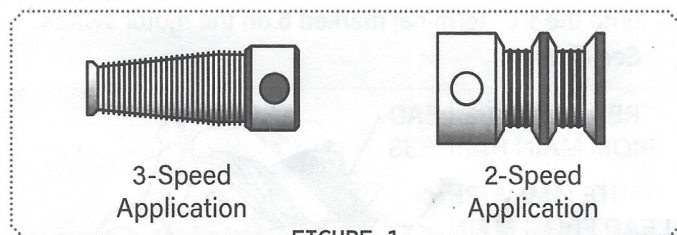

FIGURE 1
2. Compare and note the difference between the failed motor and your new replacement motor. The first thing you will need to compare is the motor pulleys. **The pulley supplied with the replacement motor can be used in most applications.** If the dryer has a 6-rib belt that is too large to fit onto the pulley of the replacement motor, you must either replace the belt with part number 341241 or remove the pulley from the failed motor and mount it to the new motor. There are also two (2) other cases you may want to use the pulley from the failed motor. See Figure 1 for these two cases
NOTE: If you choose not to reuse your pulley from the failed motor as shown in Figure 1, you will lose the 2-speed or 3-speed option